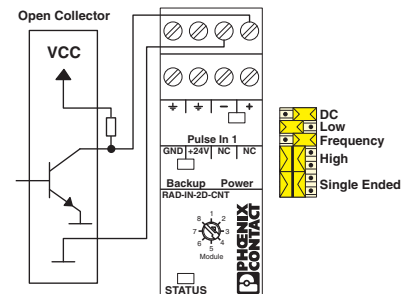

Figure 15 Open collector example for the RAD-IN-2D-CNT
- Same as for the Open collector example (see Figure 15).